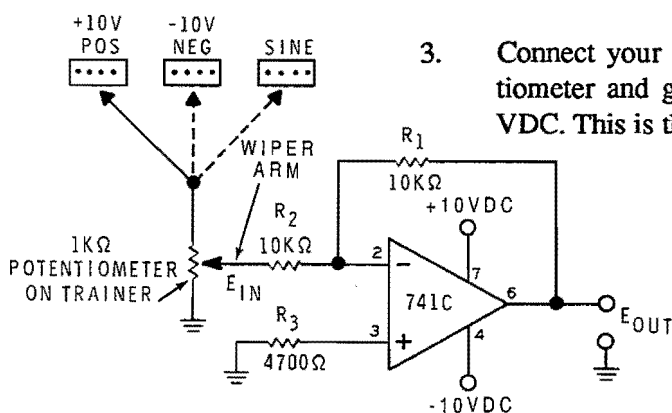

Figure 3-54
2. Construct the circuit shown in Figure 3-54. Initially, connect the 1 kilohm potentiometer to the (+) power supply. This connection will be changed in later steps.
The amplifier shown in Figure 3-54 has a gain of: